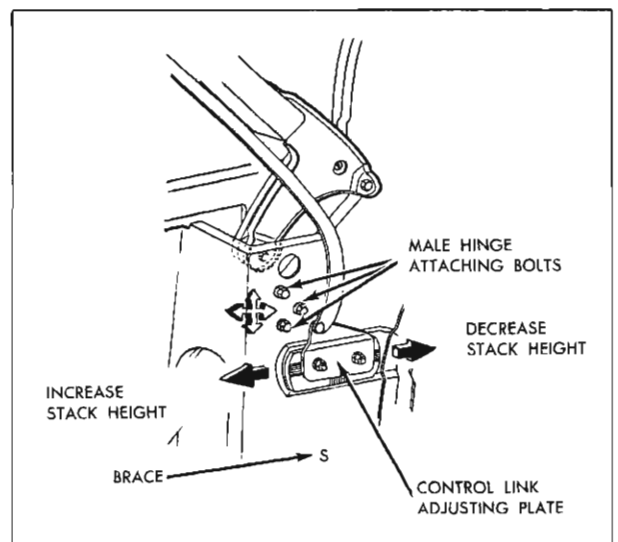
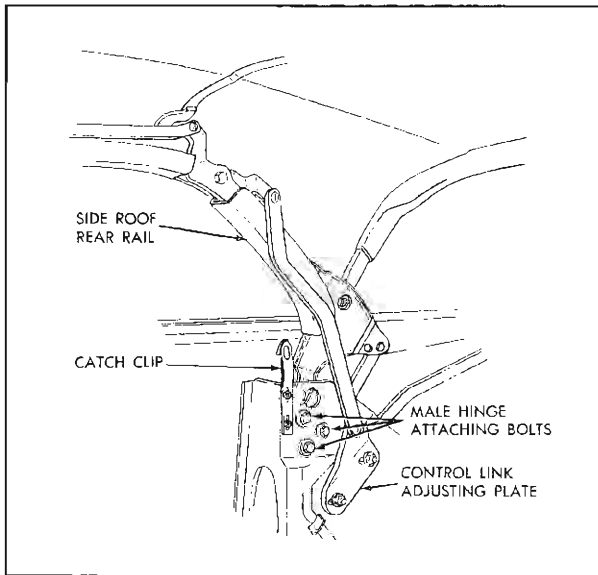

Fig. 21-25 View "C" Fig. 21-21 (Pontiac)
Fig. 21-26 View "C" in Fig. 21-21 (Tempest)
c. Loosen two bolts securing control link adjusting plate sufficiently to permit adjustment of plate. On Pontiac styles Fig. 21-25; on Tempest styles see Fig. 21-26.
b. Loosen three male hinge assembly attaching bolts. On Pontiac styles Fig. 21-25, on Tempest styles Fig. 21-26.
b. Loosen male hinge assembly attaching bolts. On Pontiac styles see Figure 21-25; on Tempest styles see Figure 21-26.
2. Male hinge assembly misaligned.	Adjust male hinge assembly rearward (Pontiac Fig. 21-25; Tempest Fig. 21-26).
2. Male hinge assembly misaligned.	Adjust male hinge assembly forward (Pontiac Fig. 21-25; Tempest Fig. 21-26).
3. On manual tops, due to improperly adjusted catch clips.	Adjust catch clips upward as required (Fig. 21-26).